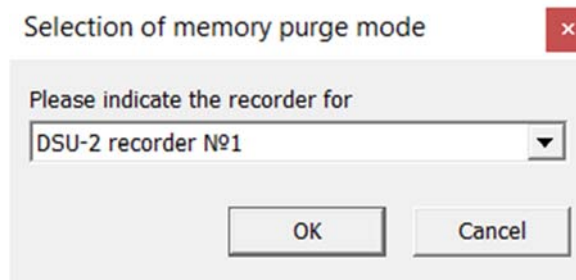

Figure 14 – DSU memory selection window
5.2 Click the  button, the window shown in Figure 14 will be displayed.